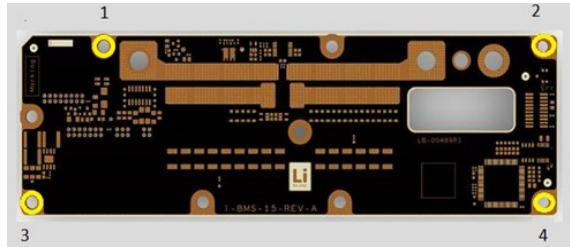

Figure 3 : i-BMS15 mounting positions
1. In order to mount the i-BMS15 on the battery pack we recommend that the i-BMS15 should be mounted on at least 4 positions (Refer to Figure 3).